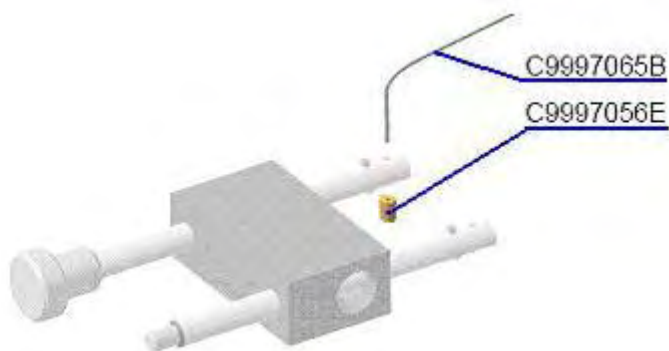

Fig. 5
- d. Remove the panel from the instrument board using 3 hex-nut wrench and check the cable C9997065B (Steel rope 7x7 1 mm) for fraying and if there is the sleeve C9997056E (Nicopress stop sleeve 1.5-1.7 mm for 1.6 mm cable) at the cable attachment to the handle. Fig. 5.
- g. Remove the damaged cable, secure a tip of the new cable by the sleeve C9997056E (Nicopress stop sleeve 1.5-1.7 mm for 1.6 mm cable) using a Nicopress tool for rope 0.45 - 2.00 mm. Fig. 5.